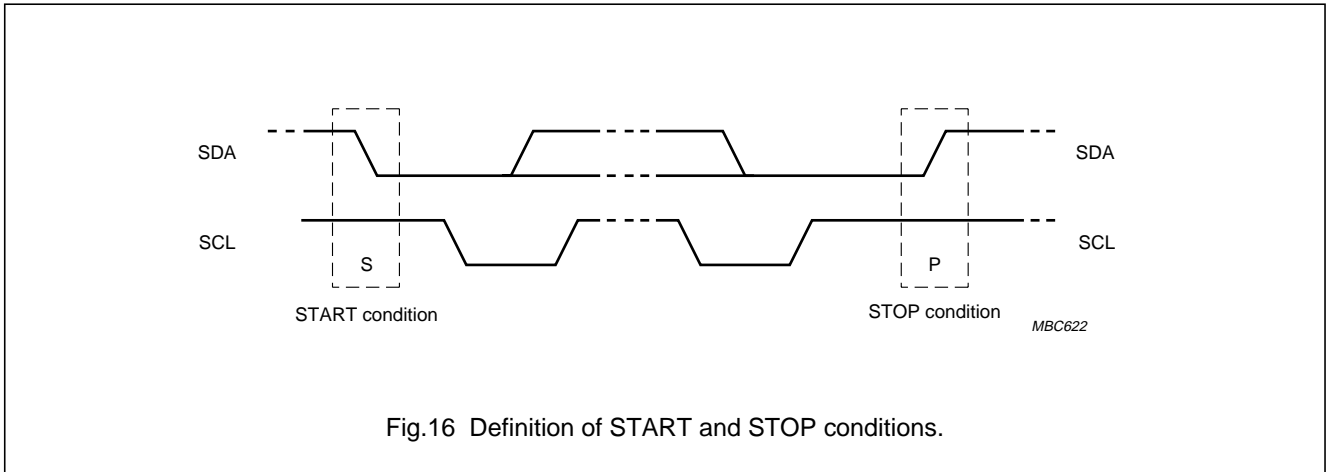

Fig.16 Definition of START and STOP conditions.
Both data and clock lines remain HIGH when the bus is not busy. A HIGH-to-LOW transition of the data line, while the clock is HIGH is defined as the START condition (S). A LOW-to-HIGH transition of the data line while the clock is HIGH is defined as the STOP condition (P). The START and STOP conditions are illustrated in Fig.16.